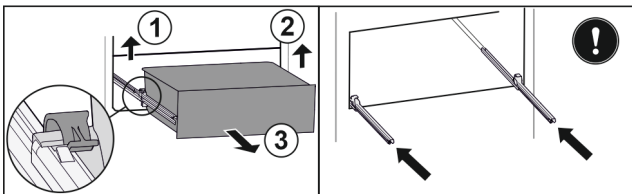

Fig. 127
- ▶ Lift left clamp and simultaneously pull drawer forwards on the left. Fig. 127 (1)
- ▶ Lift right clamp and simultaneously pull drawer forwards on the right. Fig. 127 (2)
- ▶ Remove drawer to the front. Fig. 127 (3)